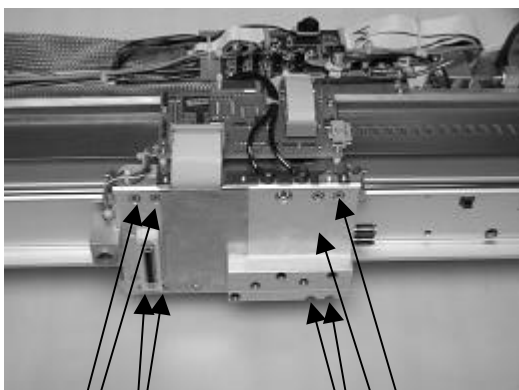

Fig. 3
6. Loosen bearing screws of both lower bearings (Fig. 3/1).
7. During screwing on (Fig. 3/2) the upper bearings must be firmly pressed against the mill-out on the rear side of the Y-carriage in order to guarantee that the bearings are installed parallel to the guide bar.